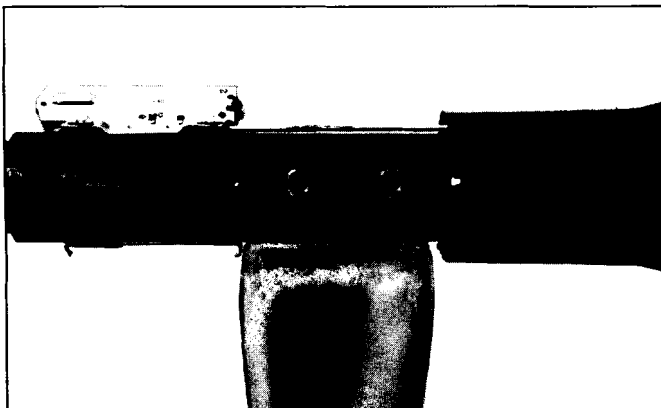

Fig. 9-39 Mounting Column In Vise By Welded Tapping Nuts
2. Mount column in vise by clamping two welded tapping nuts in vise (Fig. 9-39). Disconnect lower shaft with universal joint (pot joint) from steering column shaft by removing clamping bolt (Fig. 9-36) if pot joint is to be serviced.
2. Mount column in vise by clamping two welded tapping nuts in vise (Fig. 9-39).